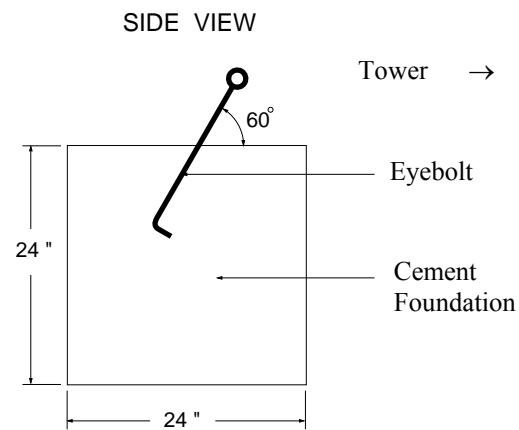

FIGURE 2.1-6. UTEYE eyebolt guy anchor
3. Fill the holes with concrete and install the eyebolts as shown in Figure 2.1-6.